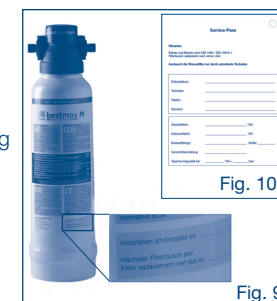

Fig. 9
- Before installing the filter cartridge, mark the installation date and the replacement date (no later than 12 months) on the filter's rating plate (see Fig. 9) or fill out the Service Pass that can be optionally obtained (see Fig. 10) and fix to the filter head using the cable tie.